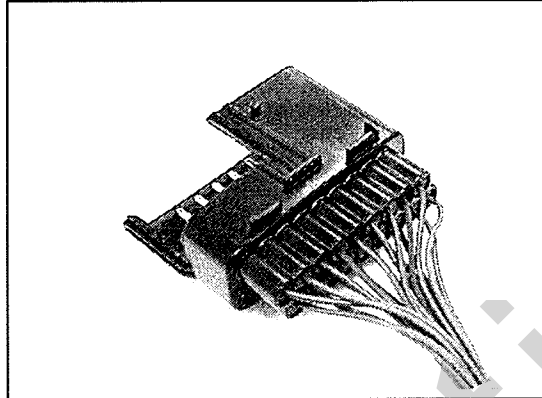

Figure 13:
c) Repeat step a) and b) until all terminals are inserted (see figure 13).